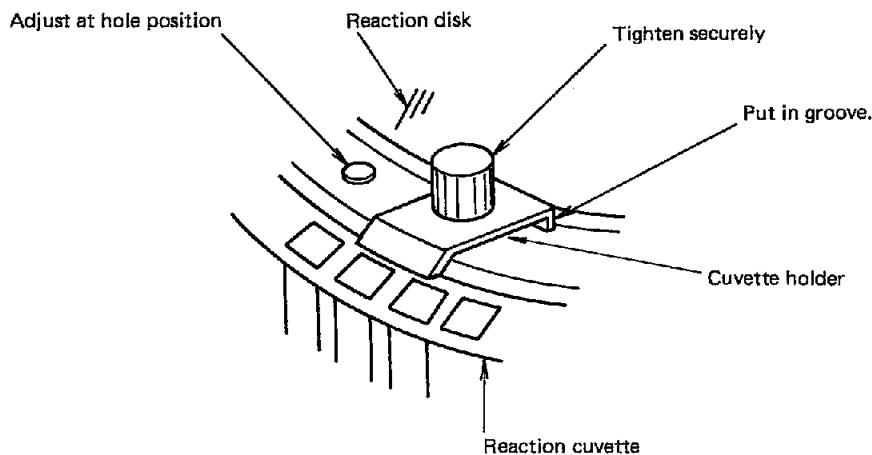

Fig. 4-1-14
- Install the cuvette as shown in Fig. 4-1-14.